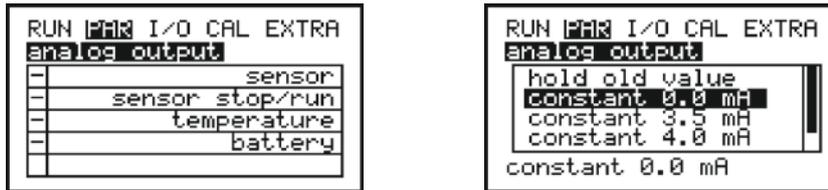

Fig. 29-11 Programming error output
- >Error input mask<** Tick the box of the elements to check: sensor, sensor status, temperature and battery (Fig. 29-11/1).
- >Value at errors<** This parameter is to define the desired analog output condition if an error should occur. The following functions are available (Fig. 29-11/2):